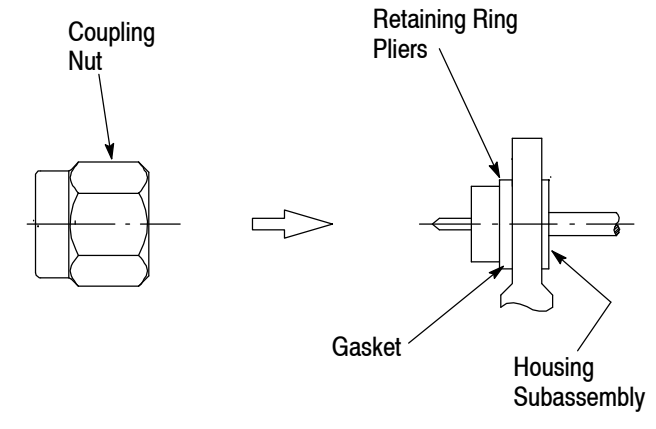

Figure 9
2.7. Securing Coupling Nut to Housing (Figure 9)